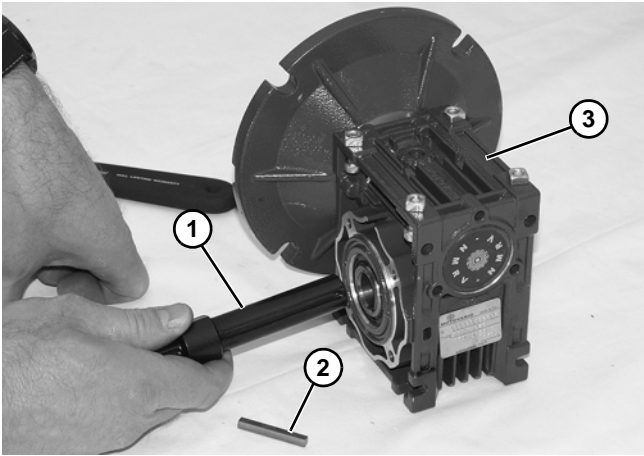

**Figure 23**
2. Loosen driveshaft bolt (**Figure 23, item 1**).
3. Hold the driveshaft with a wrench (**Figure 23, item 2**) as shown to keep shaft from turning, while removing screw with hex wrench (**Figure 23, item 3**).
- Hold the driveshaft with a wrench (**Figure 23, item 2**) as shown to keep shaft from turning, while installing screw with hex wrench (**Figure 23, item 3**). Tighten screw to 100 in-lb (11.5 Nm) for 42CZ or 350 in-lb (39.5 Nm) for 52C, 63B5 and 71B5.